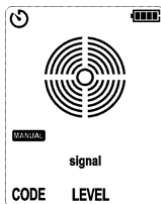

Figure 10.1.4a No Signal Detected
1. Short press the "AUTO/MANUAL" (mode) button and then the LCD shows "MANUAL", as shown in Figure 10.1.4a.
3. To obtain a best effect when tracking energized conductor , please align the dot screen printing (on the top of the sensor) to the direction of the conductor, as shown in Figures 10.1.4a and 10.1.4b. If not aligned properly, signal may not be detected or the code may be wrong. To check the direction of the cable, please rotate the receiver for 90 degrees regularly. The signal strength reaches its maximum when the cable is aligned with the dot screen printing. According to the differences of detected signals, the receiver automatically detects if the cable is energized (“ Δ ”), which will be displayed on the LCD. No need to perform manual setting.